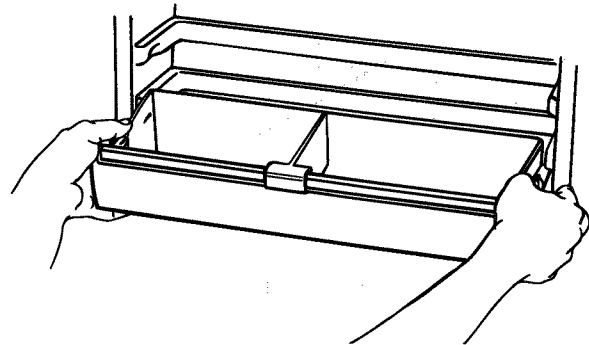

Figure 16
- Push lock tabs toward center with your thumbs and forefingers. See Figure 16.